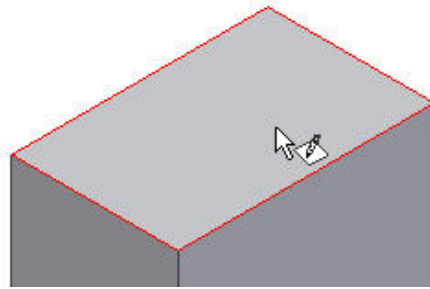

Figure 11
11. Set the part back to the Isometric view to begin placing the holes. Select Sketch and click on the top surface of the part as shown in Figure 11.